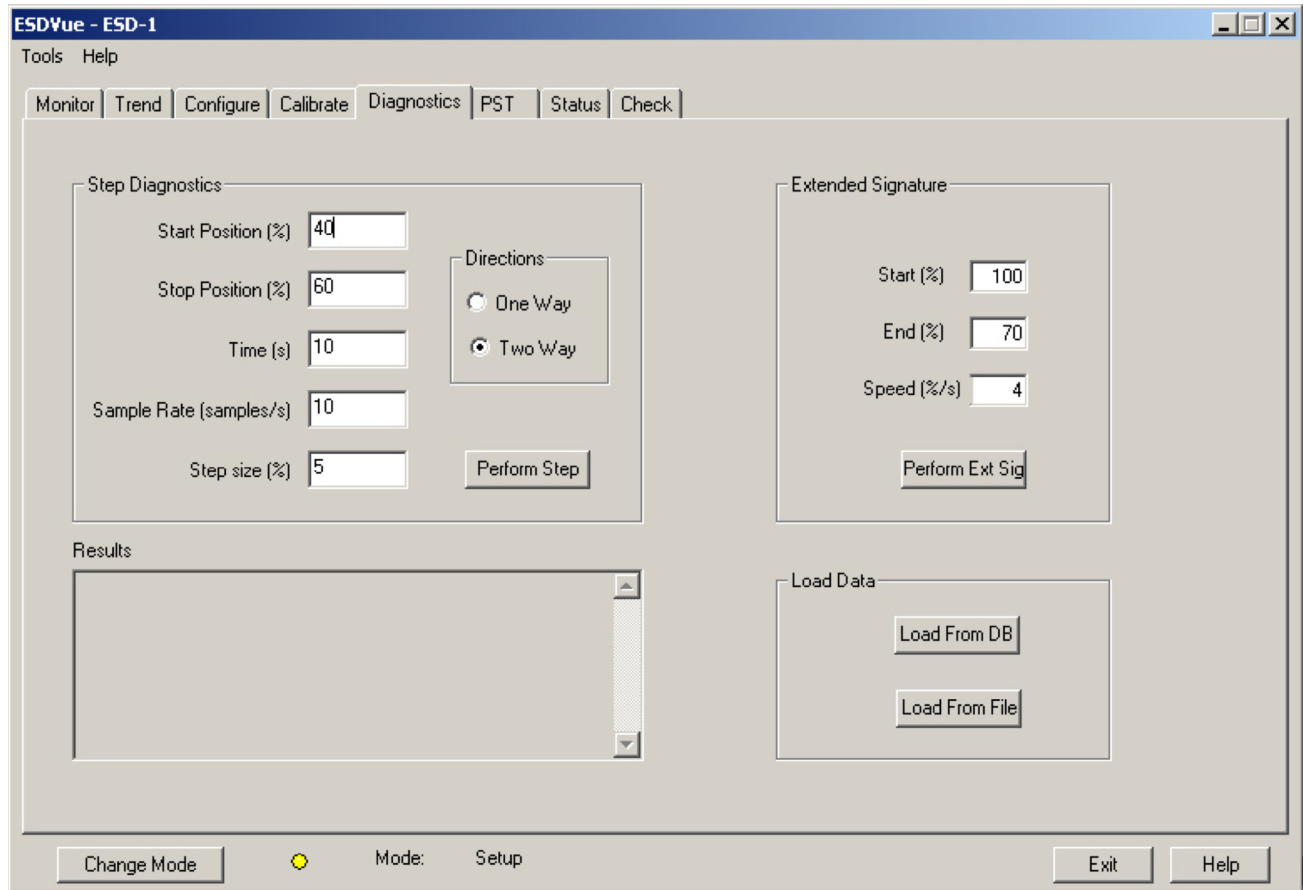

Figure 199 - Adjusting Extended Diagnostics Parameters
1. Adjust the *Start (%)*, *End (%)* and *Speed (%/s)* parameters, if necessary (Figure 199).